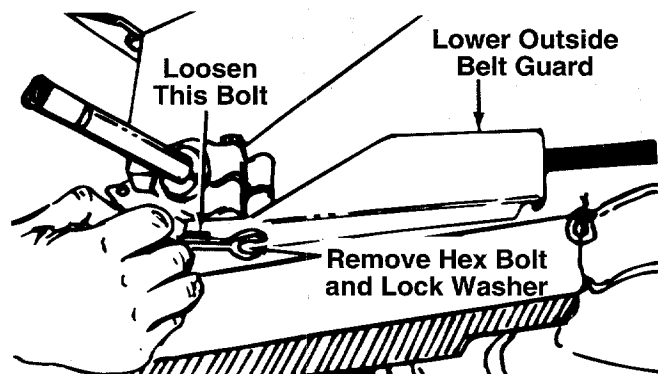

FIGURE 25.
3. Remove one hex bolt and lock washer at the front of lower outside belt guard. A 1/2" wrench is required. See figure 25.
4. Loosen (Do Not remove) the second bolt. See figure 25.